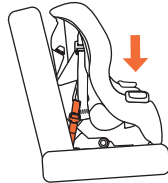

Fig. 33b
5. Put weight in seat with hand to compress the automobile seat cushion then insert the buckle tongue into the buckle and adjust seat belt as tight as possible (Fig. 33b).